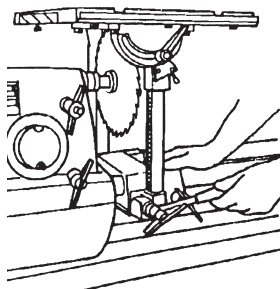

Figure 28
8. Loosen the Carriage Lock and slide the Carriage so the Saw Blade is directly beneath the slot in the Table Insert. See Figure 28 or 29. Tighten the Carriage Lock.